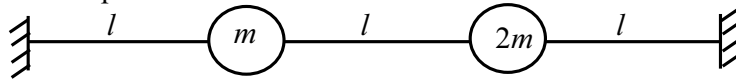

Fig. 2
- 13** A rotor of mass 14 kg is mounted at mid point of a steel shaft of 25 mm diameter supported between two bearings which are 40 cm apart. The rotor has an unbalance of 0.25 kg-cm. If the rotor runs at 6000 rpm, determine: (1) critical speed of the shaft (2) The maximum and minimum stress developed in the shaft (3) the dynamic load transmitted on each bearing. Take $E = 210 \text{ Gpa}$ and density of shaft material $\rho = 8 \text{ gm/cc}$.
- 15** Determine the natural frequencies and the corresponding modes of vibration of the system shown in Fig. 2. The string is stretched with a large tension T . Also draw the mode shapes.